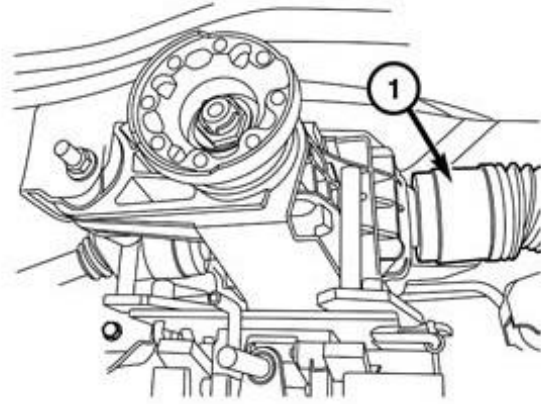

Figure 24 – Remove Left Halfshaft
36. Lower axle just enough to remove the left halfshaft (1) from the axle. Use care to protect the halfshaft journal (Figure 24).